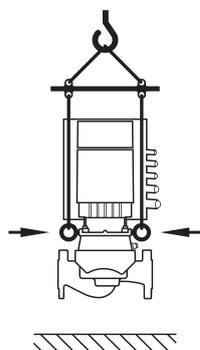

Fig. 8: Transporting the pump
- The pump must be transported using approved lifting gear (e.g. block and tackle, crane, etc.). They must be attached to the transport eyes at the motor flange (Fig. 8, shown here: Lifting direction with vertical motor shaft).